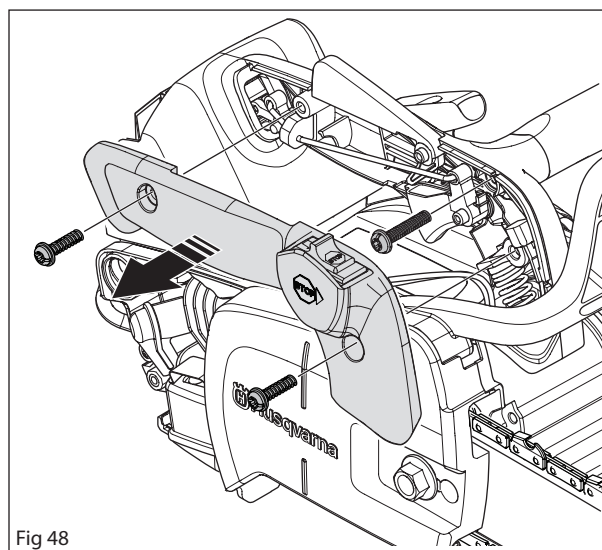

Fig 48
5. Remove the two screws holding the grip cover. Remove the grip holder. See Figure 48.